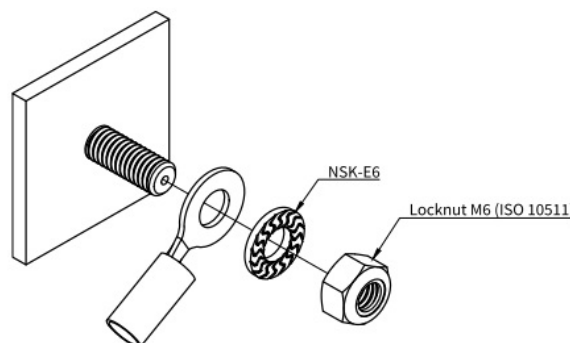

Figure 14 Earth Cable Mounting on Earth Stud
- Mount the earth cable as shown in Figure 14.